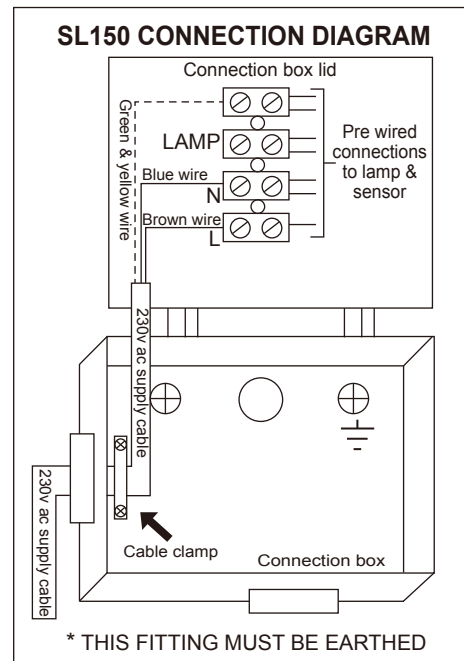

Fig. 4
7. Connect wire to terminals as Fig. 4